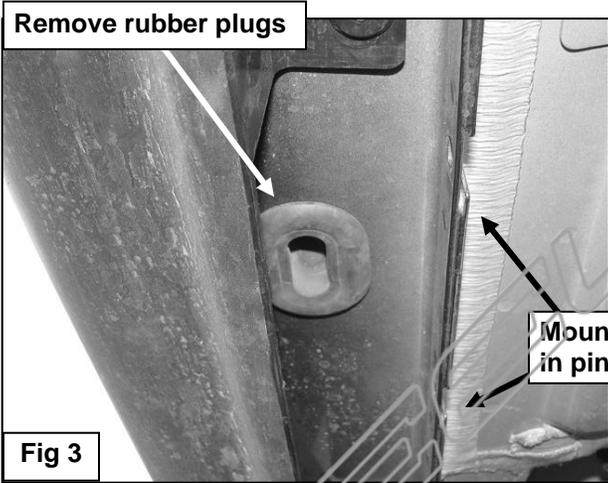
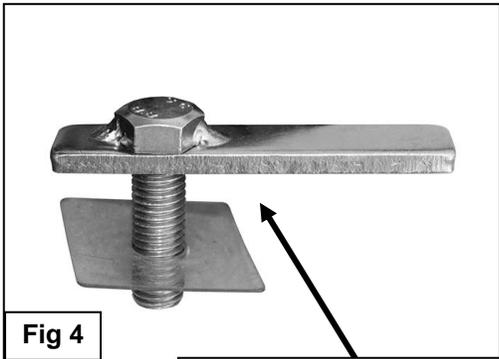

Fig 3
Fig 4
- Starting at the driver side, locate the (3) pairs of factory holes in the pinch weld, **(Figure 1 & 2)**. Move toward the front pair. Remove the rubber plug filling the oval hole in the bottom of the rocker panel in front of the two holes, **(Figure 3)**. Select (1) 12mm Bolt Plate and (1) 12mm Plastic Retainer. Partially thread the Retainer onto the Bolt Plate, **(Figure 4)**. Insert the Bolt Plate into the oval hole and rotate it 90-degrees to go across the slot, **(Figure 5)**. Thread the Retainer all the way down the Bolt Plate and tight against the body panel. **NOTE:** The Plastic Retainer is designed to prevent the Bolt Plate from falling into the body panel and to aid Bracket installation.